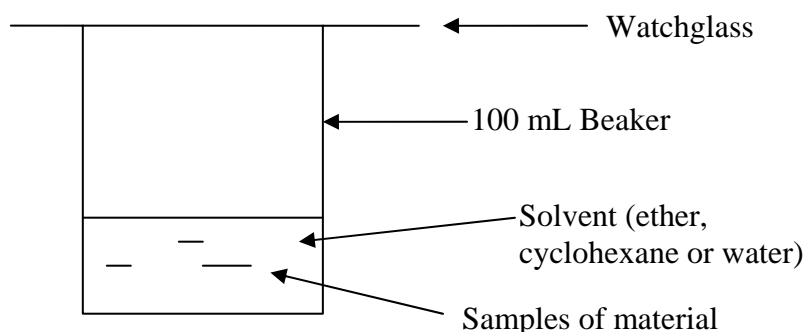

Figure 6: Diagram of a solvent bath.
- 2) In the fumehood make up a cyclohexane (non-polar solvent) bath and an ether (very non-polar solvent) bath as shown in Figure 6.